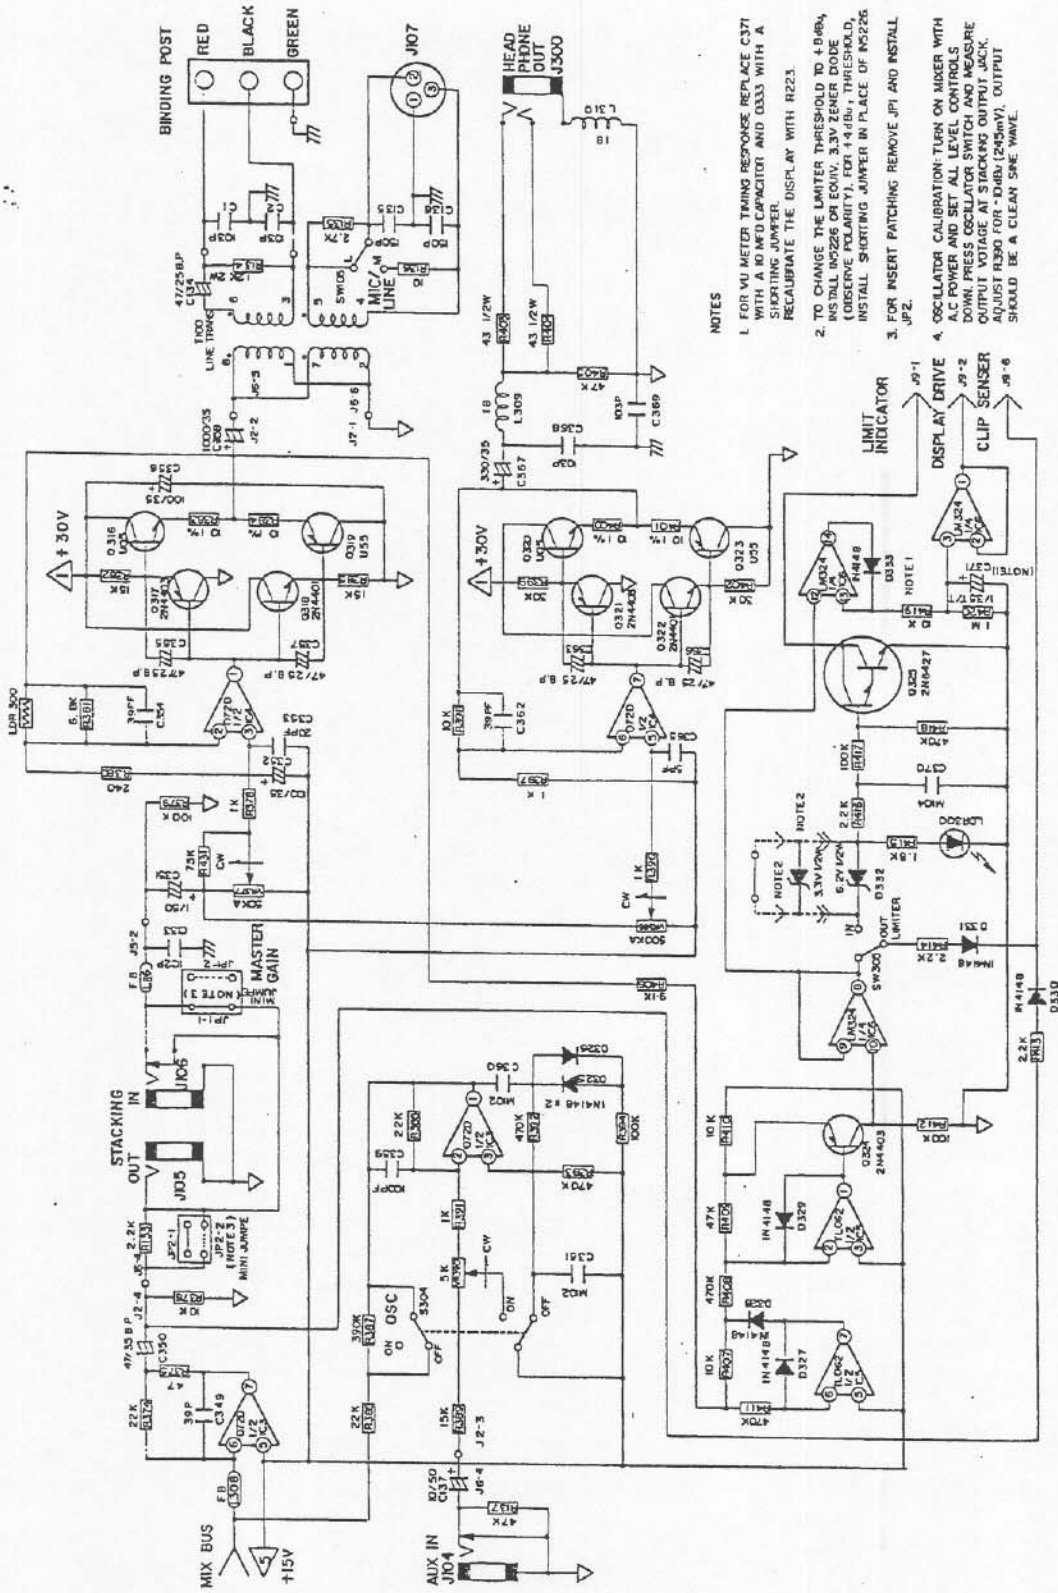

Figure 7 Schematic of the Output Section
(Refer to the schematic in Figure 7, page 14)
9.5 To Convert the Stacking Jack for Insert Patching (Refer figure 7, page 14)